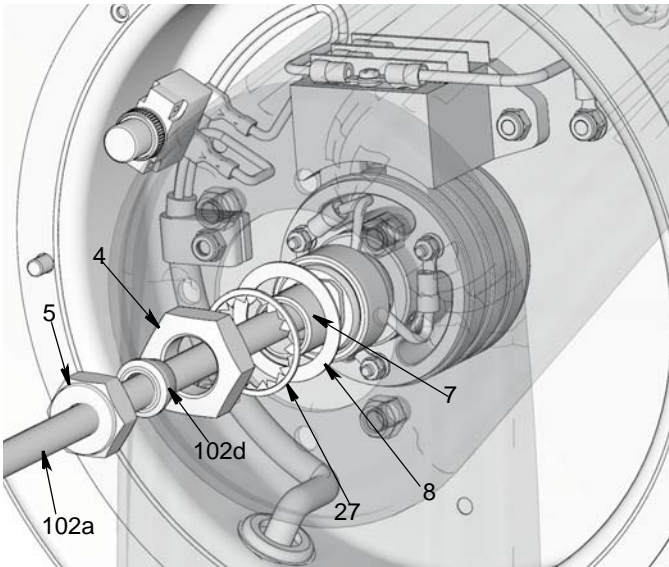

FIG. 16
1. Route power cord (102a) through strain relief nut (5), cord stop (102d), 34 mm hex nut (4), star washer (27) through pedestal arm, washer (8), and then through shaft (7). (FIG. 16)